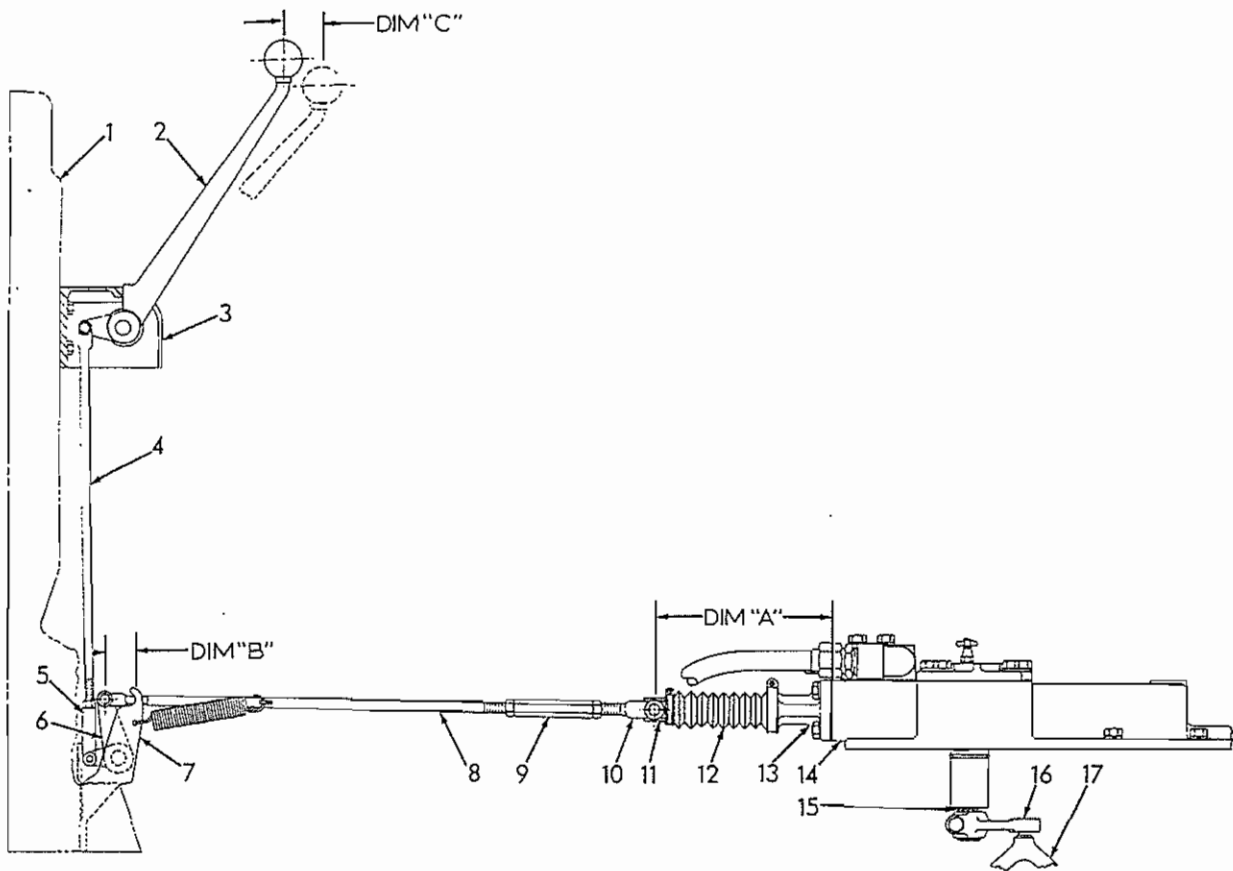

Fig. 22 -- HD11 (S/N 6069 - 10000) Steering Control Linkage (T-72036)
Refer to Fig. 22 and push spool valve (11) solidly against piston in control valve (14); be certain spool and piston are pushed to rear as far as possible, to take all "slack" out of actuating lever (16) and throwout yoke (17).
Measure distance from front machined surface of control valve (14) to center of hole in front end of spool valve (11); this measurement must be  $8-15/16"$  + or -  $7/16"$  (refer to Fig. 22, DIM. "A").
Refer to Fig. 22; hold spool against piston and connect control rod (8) to spool (11); adjust length of control rod by turning ad-
Subsequent adjustments for free travel (DIM. "C") should be made when free travel diminishes to 1", subsequent free travel adjustments are made by turning adjusting nut, Fig. 22 (9) to shorten control rod (8).